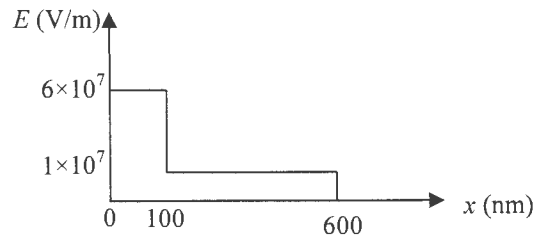

Figure 4.1
In one such GaAs IMPATT diode with an electric field profile, as shown in figure 4.1, calculate the oscillation frequency and the maximum applied voltage assuming a breakdown field of 6×10^7 V/m in GaAs. (3)
- c. i) Using the band diagram of a GaAs/AlGaAs High Electron Mobility Transistor (HEMT) biased at its threshold voltage, explain how a high cutoff frequency is achieved. (4)